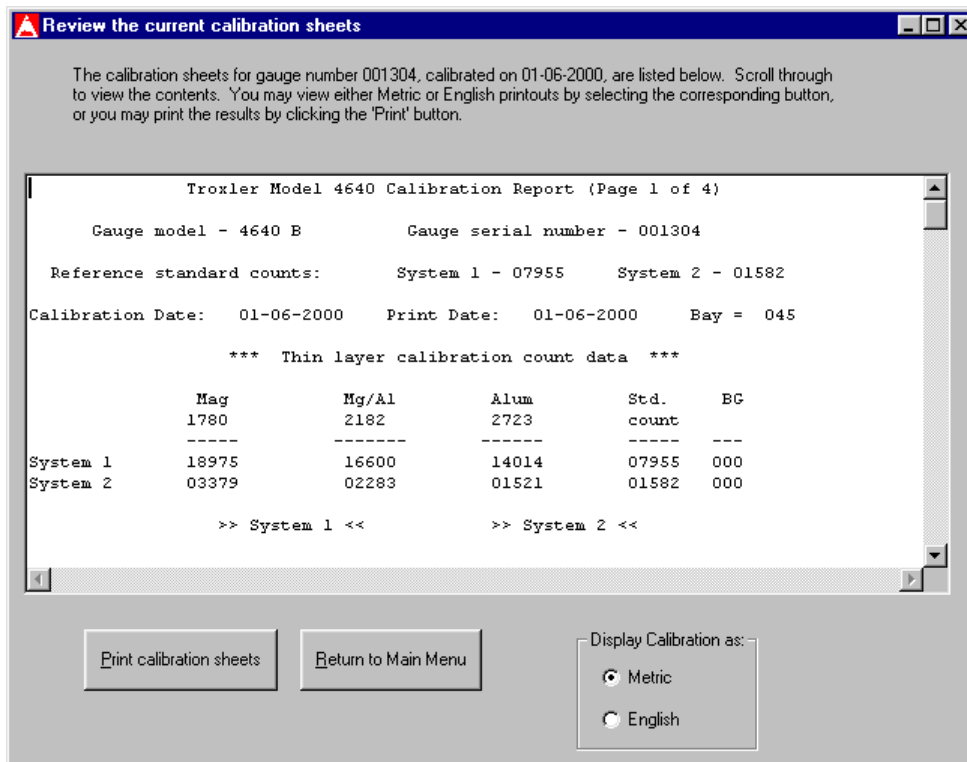

Figure 6–13. Review the Current Calibration Sheets Display
36. When the **<Proceed>** button is clicked, the software formulates the calibration sheets and displays them for review as shown in Figure 6–13. The entire text of the calibration sheets, in formatted form, is displayed in the text box shown on this screen. The user can scroll up and down this text box to view the calibration sheet in its entirety. This sheet can be displayed in Metric or Imperial (English) units simply by clicking the appropriate option button in the lower right-hand portion of the screen.